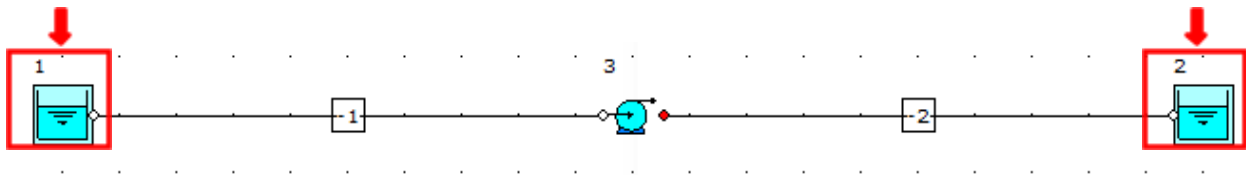

Figure 10: Highlighted Boundary Nodes.
11. Left mouse-click on the inlet boundary (node 1) and whilst holding the SHIFT key, left mouse-click on the outlet boundary (node 2). You should now see both nodes highlighted on the flowsheet (Figure 10).